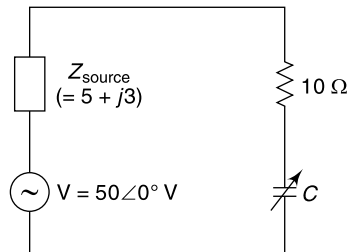

Fig. 5.80 Circuit diagram for Ex. 5.135
5.135 In the series circuit shown in Fig. 5.80 the source impedance is $(5 + j3) \Omega$ while the source frequency is 2 kHz. At what values of C the power in the 10Ω resistor will be maximum?